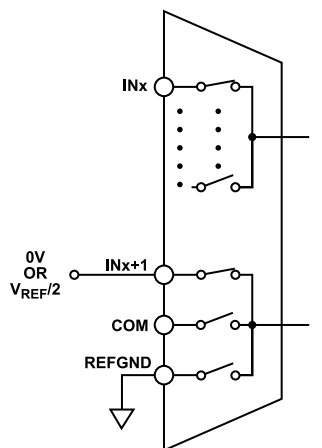

Figure 71. Even- and Odd-Channel Paired
- ▶ Figure 71, even numbered input paired with the next highest odd numbered input (for example, IN0 with IN1, IN2 with IN3, and so on).